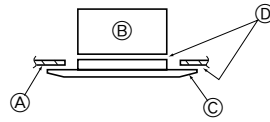

Fig. 8-7
8.3.3. Securing the grille (Fig. 8-7)